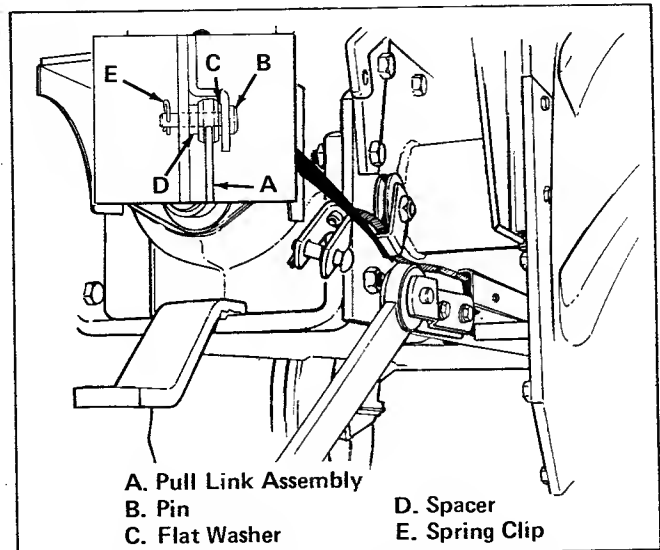

Figure 7. Install Pull Link Assembly
12. Install right-hand pull link assembly (item A, figure 7). Push pin (item B) out from pull strap towards tractor fender as far as possible. Install flat washer (item C), pull link assembly, and spacer (item D) between inside pull strap and outside tractor frame. Secure with spring clip (item E) inside tractor frame.